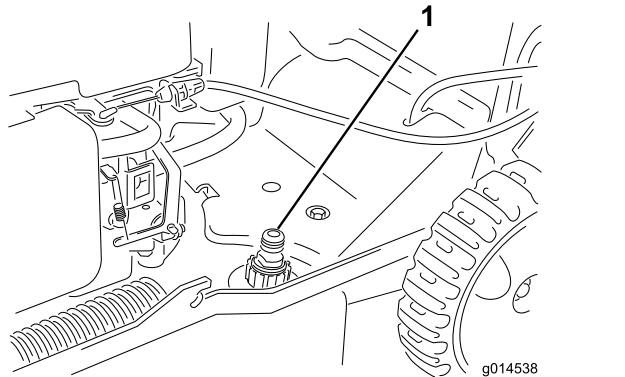

Figure 19
3. Attach a garden hose that is connected to a water supply to the washout port (Figure 19).